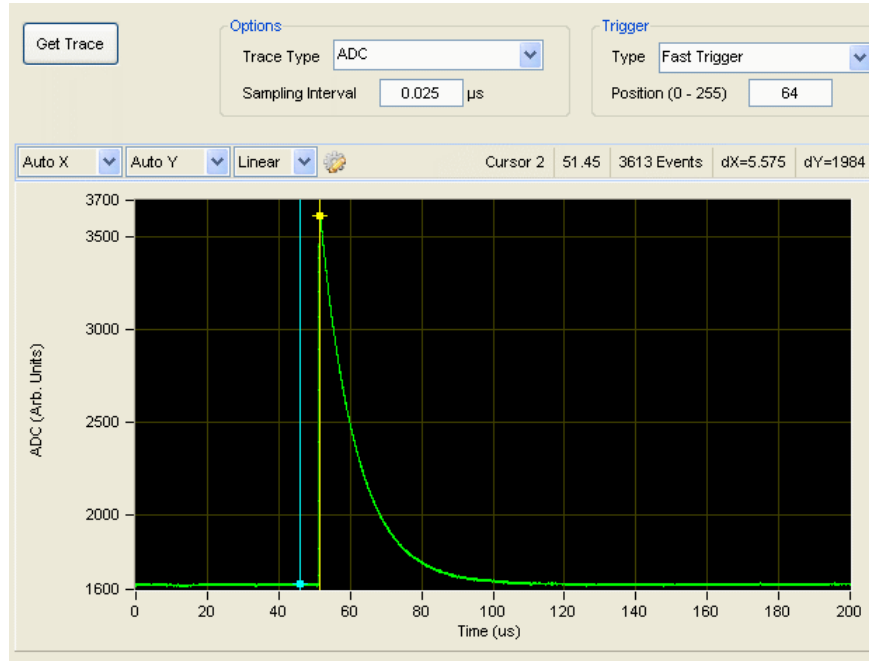

Figure 3-21: A well separated event with an amplitude of ~ 1984 vertical units.
1. First acquire an **ADC** trace that includes at least one well-separated x-ray event as in Figure 3-21 below.